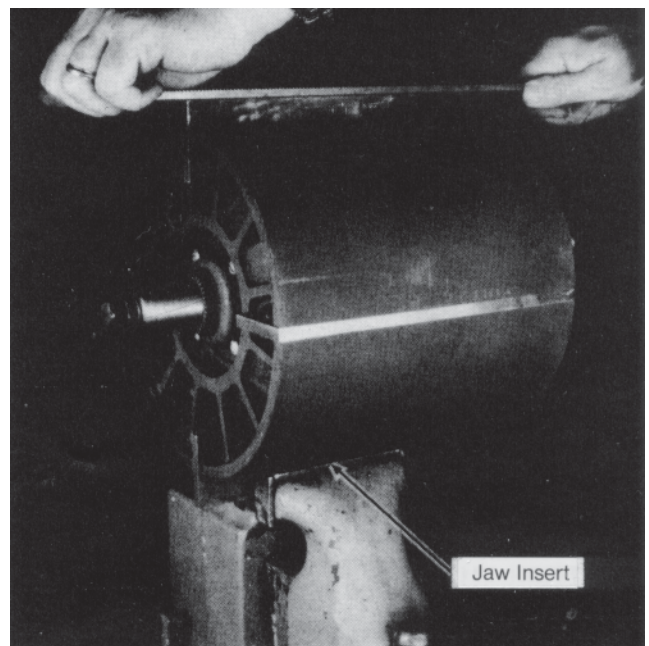

Figure 35 –Filing Edge of Blades
- Dress blade edges with a file as necessary, Figure 35. Protect blades from vise with jaw inserts.